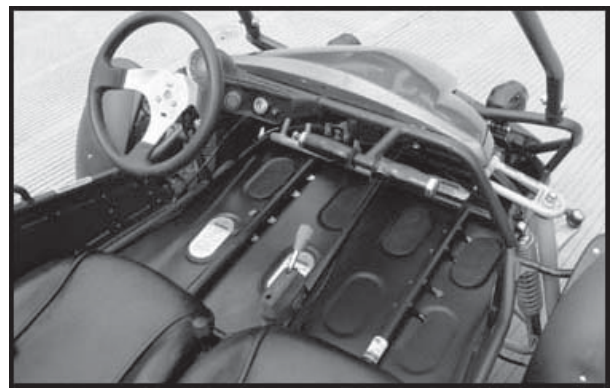

Figure 5
- e. To prevent dune buggy from rolling over, be sure to only turn the dune buggy at a slow more controllable speed. Heel on the ramp of the main board when turning. (See Fig.5) Keep your leg rely on the foot pedal, you can feel the dune buggy is stable because of the gravity is adjusted and won't roll over.